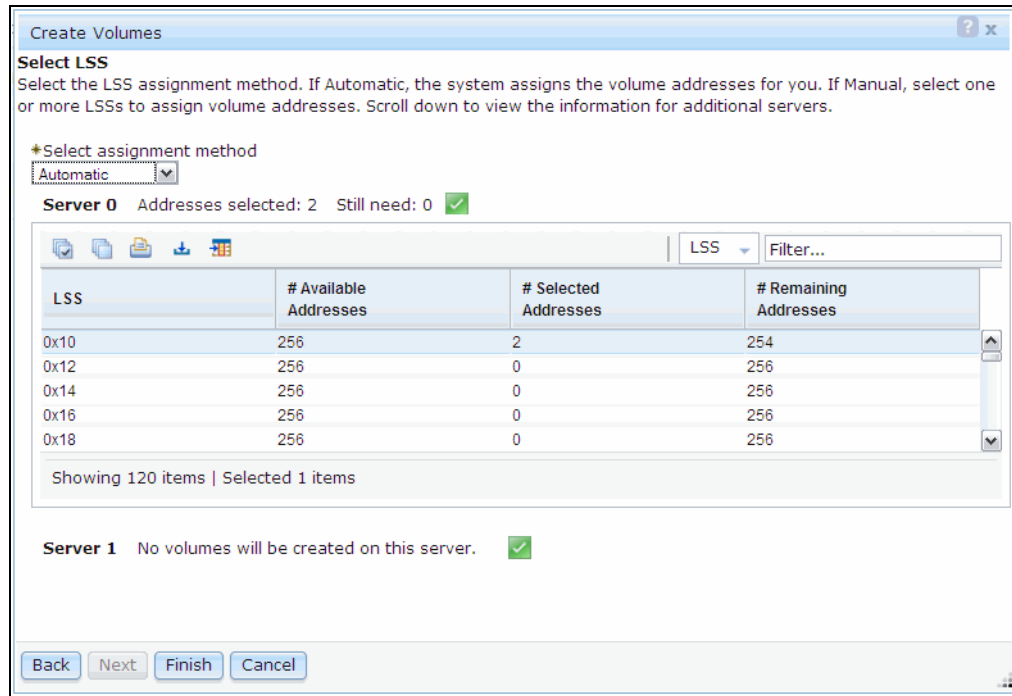

Figure 13-47 Select LSS
5. You need to select an LSS for all created volumes. You can choose **Automatic**, **Manual (Group)**, or **Manual (Fill)**. If you choose **Automatic**, the system assigns the volume addresses for you. If you choose one of the one of the manual assignment methods, select one or more LSSs to assign volume addresses. Scroll down to view the information for additional servers. In our example, we select the **Automatic** assignment method as shown in Figure 13-47 on page 343.